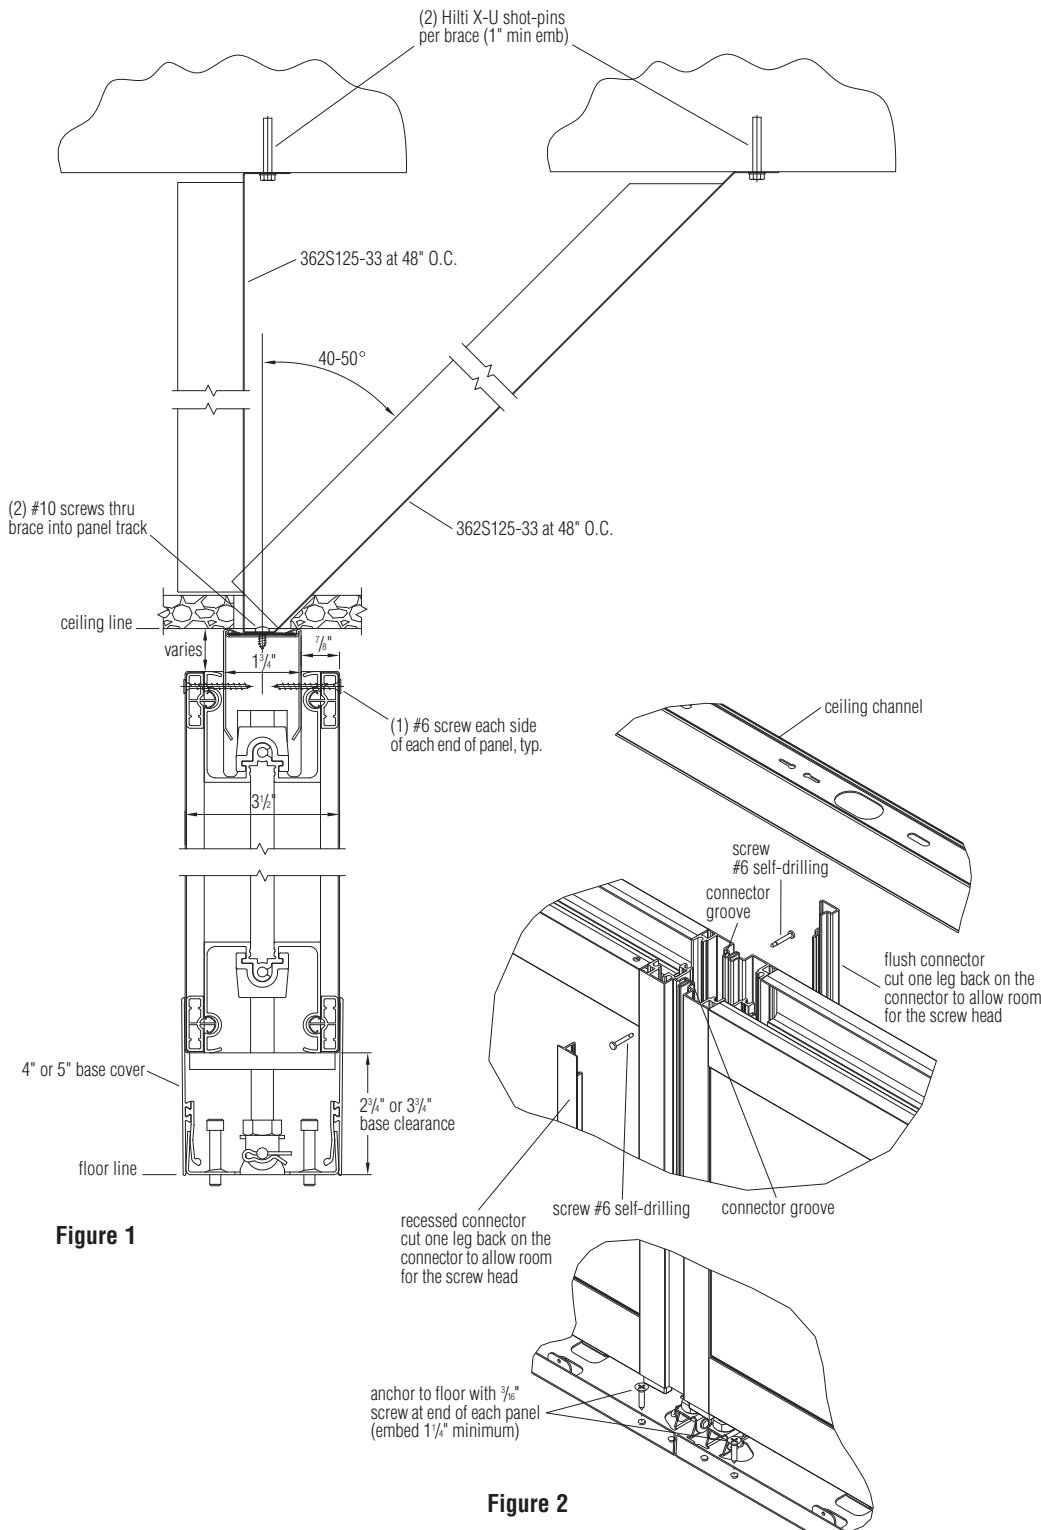

Figure 1
1. Genius panels are ICC approved for installation in seismic zones provided the ceiling has been properly reinforced (by others) (see Figure 1), and the Genius panels are mechanically fastened to the ceiling and floor. The ceiling attachment is made by driving a #6 self-drilling screw through the connector groove (one per panel) and into the ceiling channel. The panel connector will need to be trimmed to fit around the screw head (Figure 2). The floor attachment is made by driving a $\frac{3}{16}$ " diameter Tapcon screw through the holes in the end of the floor channel and into the floor, one screw on each end of the panel.
1. Seismic detail instructions, refer to Figure 1.